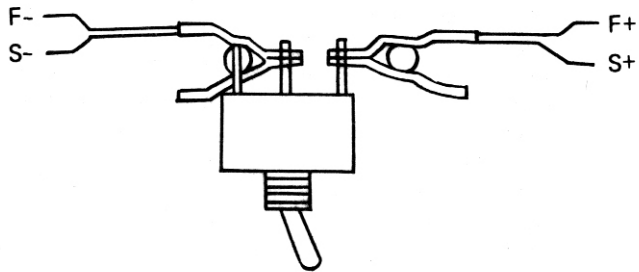

Fig. 6-2
1. Connect the switch to be tested as shown in Fig. 6-2.